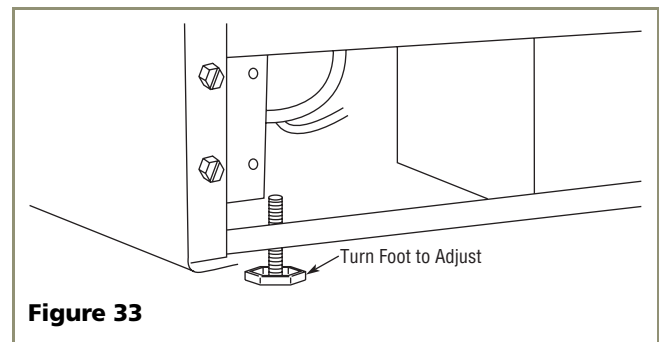

Figure 33
2. If the unit is not level, adjust the feet on the corners of the unit as necessary (see **Figure 33**).